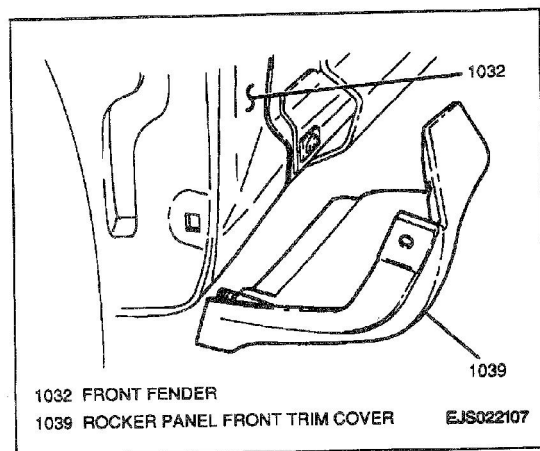

Figure 12—Rocker Panel Front Trim Cover
- Two screws, one nut and lift rocker panel front trim cover off front retainer and remove cover from rocker panel (Figure 12).
- Fit rocker panel front trim cover onto front retainer; secure with two screws and nuts (Figure 12).